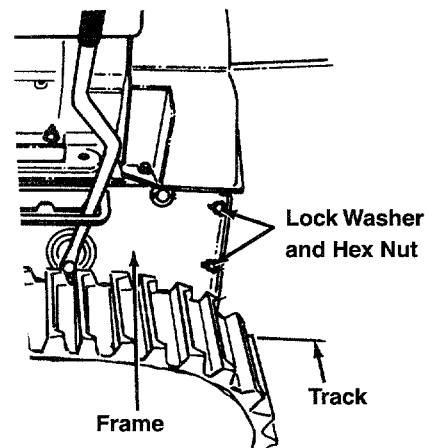

Figure 24
- Remove the six lock washers and hex nuts which attach the auger housing assembly to the frame. See Figure 24. (Only two pairs of lock washers and hex nuts are shown in the figure.)